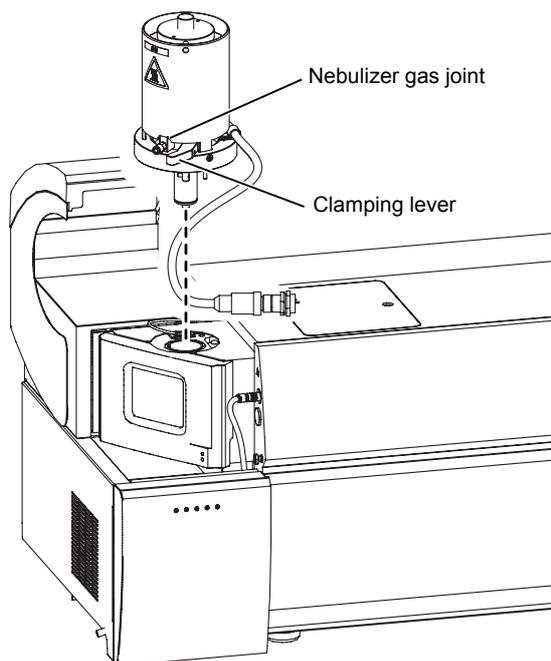

Fig. 3-24
- 2 Place the APCI probe onto the instrument from above as shown in Fig. 3-24.